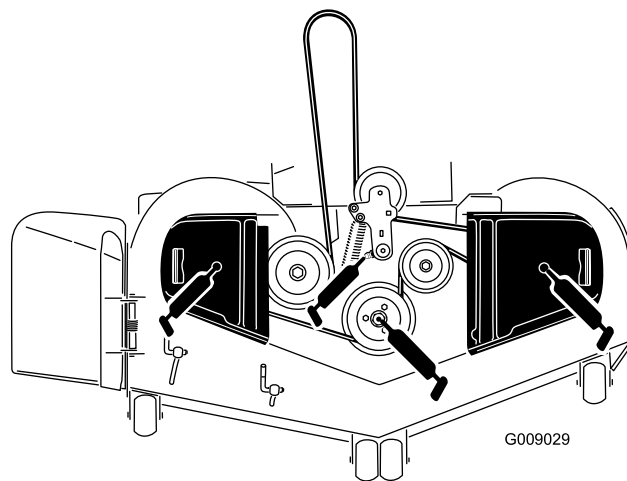

Figure 40
3. Grease the mower-deck idler-pulley pivot until grease come out the bottom (Figure 40).
4. Grease the 3 spindle bearings until grease comes out the lower seals (Figure 40).
- Grease the drive-belt idler arm (Figure 40).